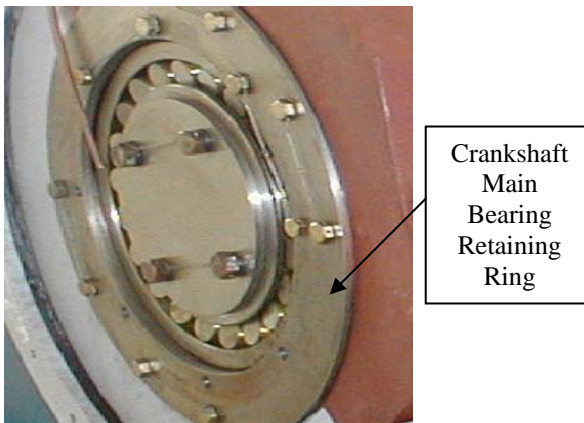

Figure 5-3 Crankshaft Main Bearing Retaining Ring
2. Install right and left crankshaft bearing retaining rings (Figure 5-3).